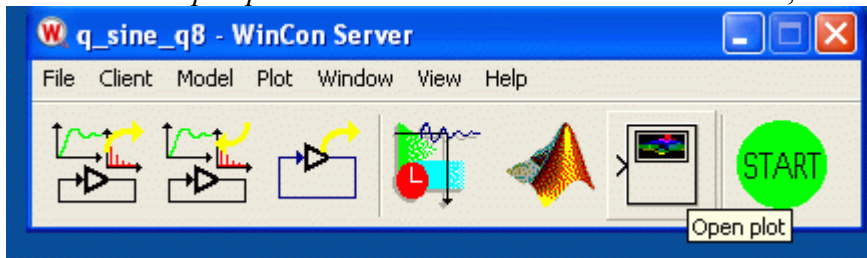

Figure 23: Open plot button in the WinCon Server window.
2. Click on the *Open plot* button in the WinCon Server window, as shown in Figure 23 below.